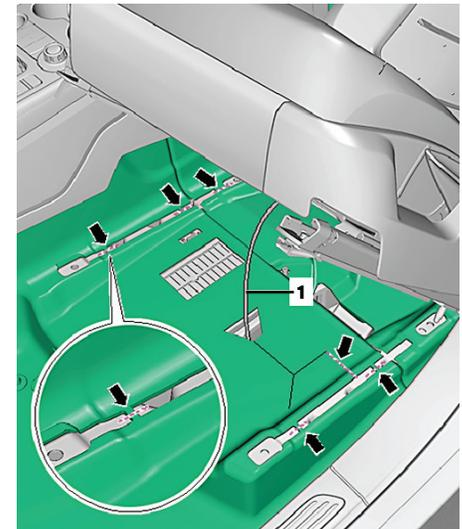

Fig. 3 Carpet cut locations
8. Cut open carpet (arrows), Fig. 3.